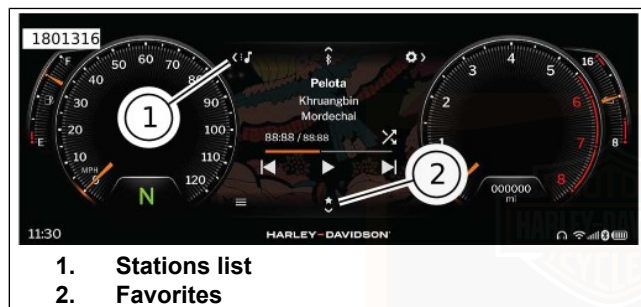

Figure 66. Stations List and Favorites
See Figure 66. A list of available stations can be viewed by selecting the stations list icon (1).
2. See Figure 66. Press favorites (2) on screen or Navigate down button on LHCM.